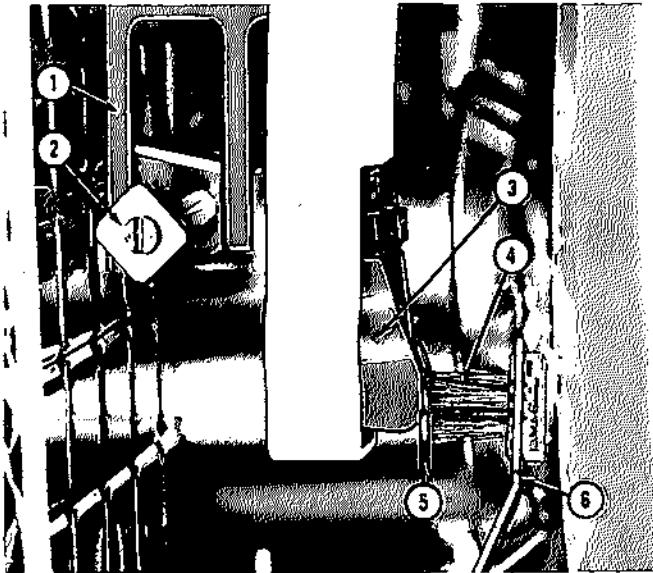
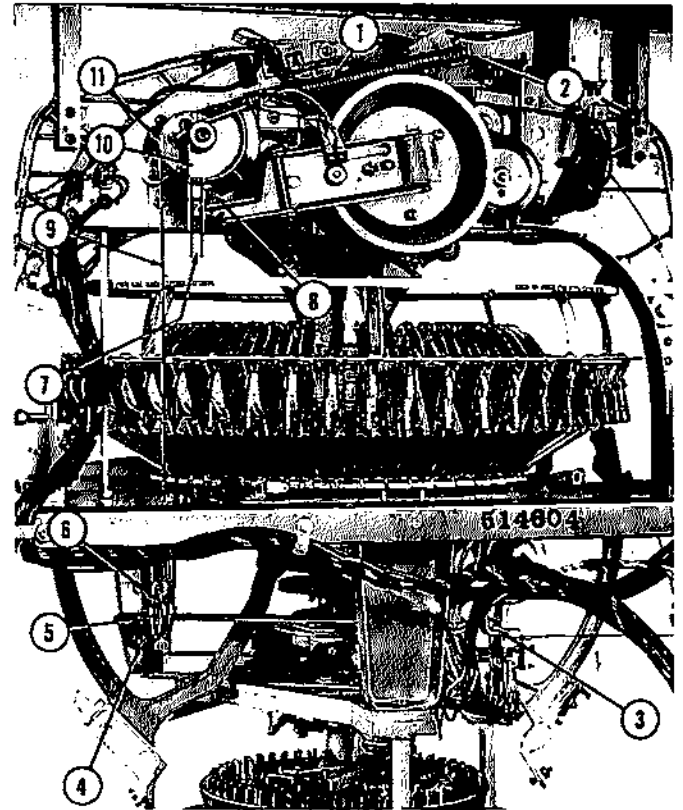
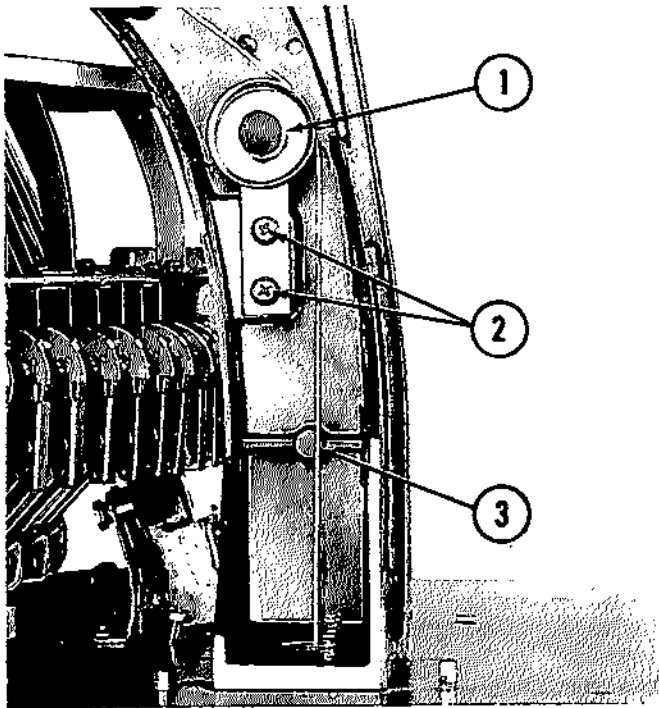

FIG. 65. TONE ARM NEEDLE BRUSH ADJUSTMENT
FIG. 67.
FIG. 66. NEEDLE BRUSH ADJUSTMENT
The Tone Arm Needle Brush Adjustment should be made with the phonograph in its normal rest position. The Brush (Fig. 65, Item 4) should be 1/4" to 1/2" below the cartridge. The dimension may be varied by loosening the Idler Pulley Mounting Screws (Fig. 66, Item 2) and moving the pulley.
The Needle Brush Arm and Shaft Assembly is spring loaded and is released by the transfer switch Cam Follower (Fig. 67, Item 3). The brush, sweeping across the stylus, removes lint and dust accumulated from the record. The tip of the stylus should project into the brush to a depth of 1/32" as shown in Figure 65, Item 5. The Brush Arm (Item 6) may be formed to provide the correct wiping action.
Adjustment of the Tone Arm and Turntable Release Cable (Fig. 67, Item 9) should be made with the changer mechanism in its normal rest position.
(4) Adjust the cable through the pulley to the dimensions shown at Items 6 and 7 and tighten the Set Screw (Item 5).
(5) The left hand end of the cable passes through the chassis mounting plate, around the Idler Pulley (Fig. 67, Item 6) and anchors to the Slide Pin (Item 5).
(6) The right hand end of the Cable will pass once around the Drive Pulley (Item 11) and hook to the Spring (Item 1) which is anchored to the Spring Pin (Item 2). When correctly installed the Turntable Release Lever Roller should be on the forward track of the Turntable Release Cam (Item 10) and the Roller (Item 8) on the Cam Lever Assembly should be on the rear track of the Turntable Release Cam.
(7) Adjust the cable with the Screw (Item 4) as described in paragraph aa of section 4 on page 29. Check the phonograph for correct mechanical operation by playing several selections.